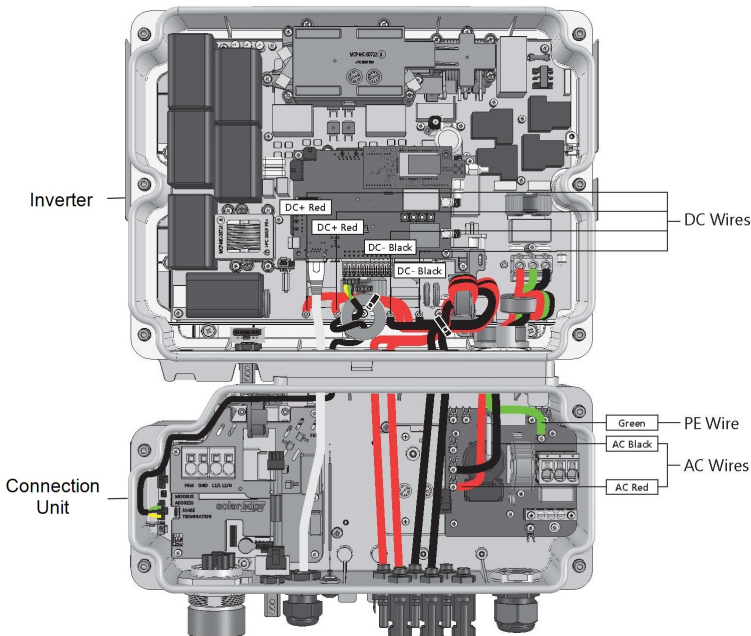

Figure 32: Disconnecting and connecting cables and wires between the inverter and Connection Unit
In the inverter (see *Figure 32*):
In the Connection Unit (see *Figure 32*):
- a. Disconnect the grounding (PE) wire.
- b. Disconnect the red and black AC wires (see *Figure 32*).
replacing the connection unit (see *Figure 32*:
- d. Pull the AC wires through the inverter openings, then using a Philips screwdriver connect the AC wires (see *Figure 32*.